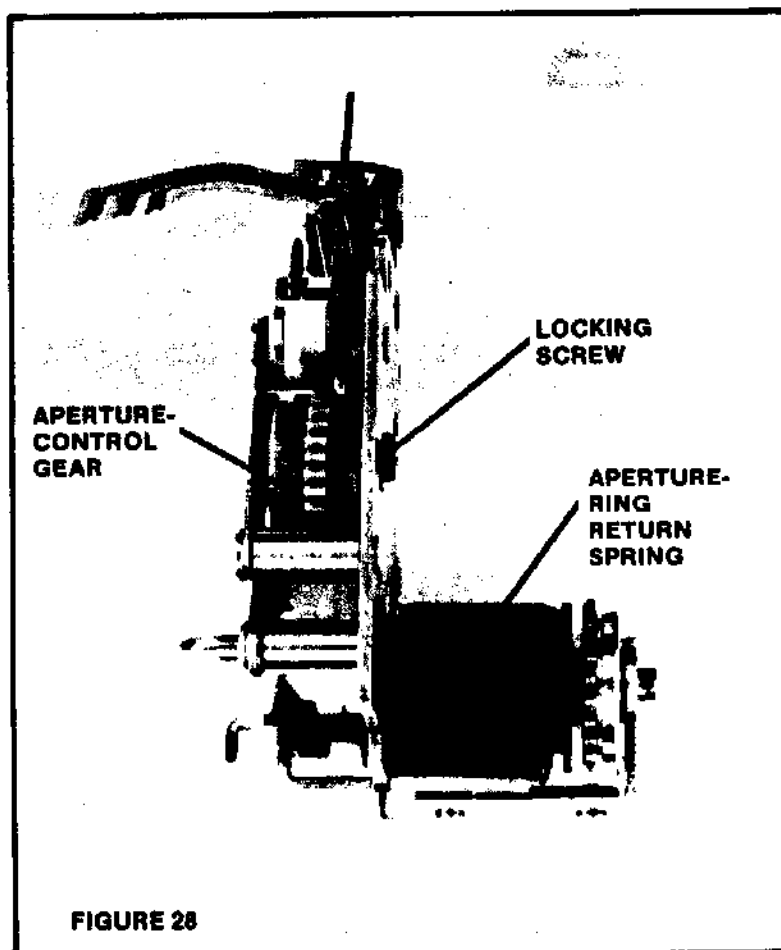

FIGURE 28
2. If you're going to remove both the aperture ring and the clutch unit of the mirror box, Fig. 22, the aperture-ring return spring will unwind. Before removing the aperture ring, install a 1.5mm screw into the threaded hole at the front of the aperture-control unit, Fig. 23 (you can use the screw you removed to take out the winding-base plate, front of camera, Fig. 14). The screw then blocks the shoulder of the gray aperture-control gear, Fig. 28, and prevents the spring from unwinding. The proper initial tension is 6.7 turns. However, Minolta recommends replacing the aperture-control unit, Fig. 28, rather than attempting to retension the spring. A replacement aperture-control unit comes with the locking screw in place, holding the proper amount of initial tension.